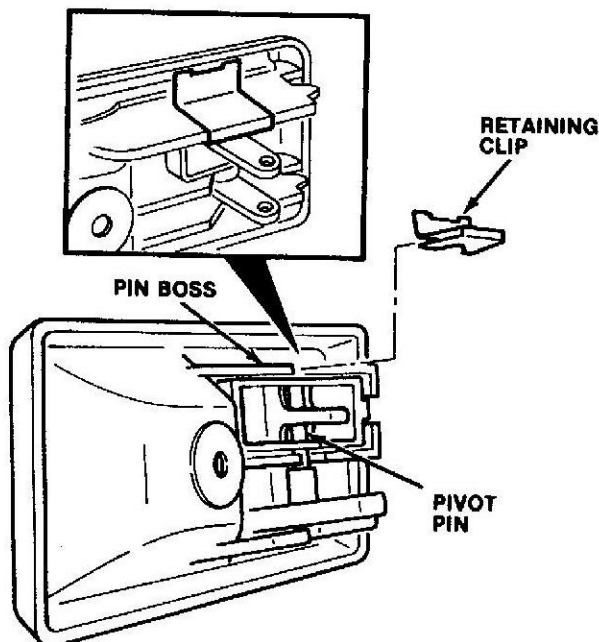

Fig. 3 — Lock Button Pivot Pin Retaining Clip Installation
7. Install retaining clip, part number 4007207, over the remote control handle lock button pivot pin and pin boss (Fig. 3). Be sure the clip notch is fully seated on the plastic pin and pin boss.